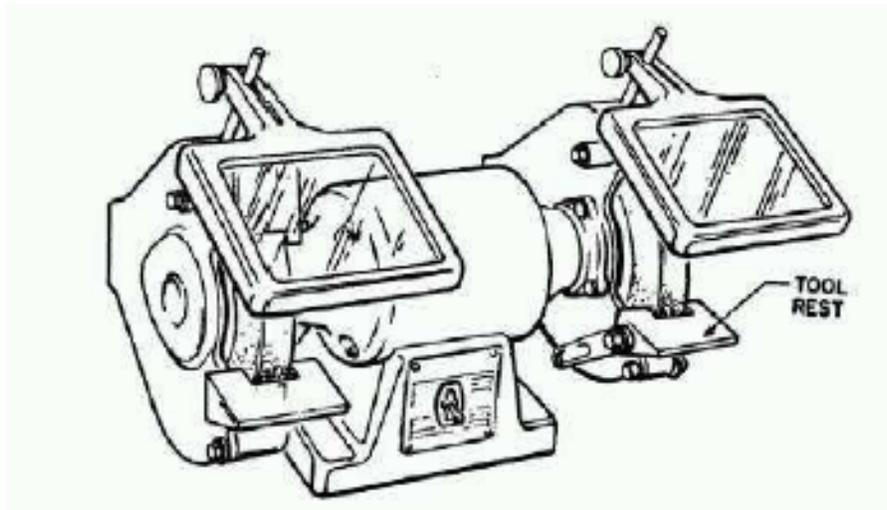

Figure 8-15. Bench Grinder
2. Make sure tool rest is close to grinder wheel (1/8 inch or less) (Figure 8-15).
7. Replace the wheel when it gets too small. (80% of its original diameter or when item 2 above is unattainable.)
8. Make sure eye shield is in place. (Figure 8-15).